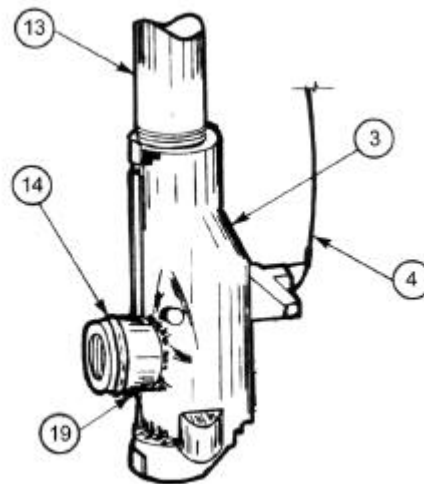
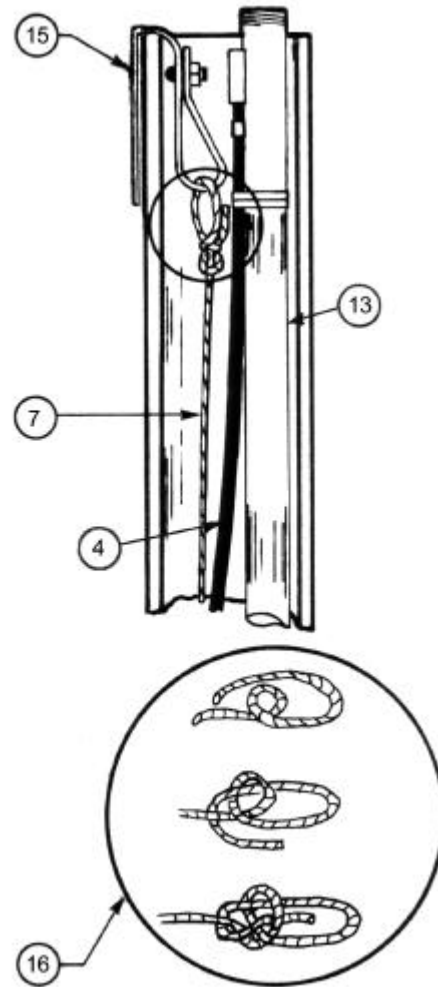

Figure 4
Figure 8
2. Tighten the drop-pipe fitting to a 25mm (1 in) galvanized pipe (Item 13, Figure 4) and hold it along the outside of the well casing so the top of the galvanized pipe is 25mm (1 in) above the casing. The drop-pipe fitting must be a minimum of 2.5m (8 ft) below the ground surface. If necessary, extend the release cable (Item 4, Figure 4).
10. Connect the drop pipe, electrical cable and safety rope to the submersible pump. Tie the safety rope using a bowline knot (Figure 8). Lubricate the "O" ring on the drop pipe fitting neck (Figure 4) with clean petroleum jelly (vaseline). Lower all of the above into the casing. The Tee handle and notch in the top of the casing are used to line up the drop pipe fitting neck (Figure 4) with the saddle fitting. The Tee handle will also prevent the pump from falling into the well. When the Tee handle comes within 50mm (2 in) from the top of the casing, the drop-pipe fitting will align with the saddle fitting. The spring-loaded actuator in the drop-pipe fitting will then snap the neck into the saddle fitting, sealing the connection and locking the two together.
11. The nylon safety rope, minimum size 8mm (5/16 in), may be attached by fabricating on a hook from a piece of 3mm x 25mm x 350mm (1/8 in x 1 in x 14 in) flat iron (Item 15, Figure 8).
12. Tape the release cable to the 25mm (1 in) galvanized pipe (Figure 8).